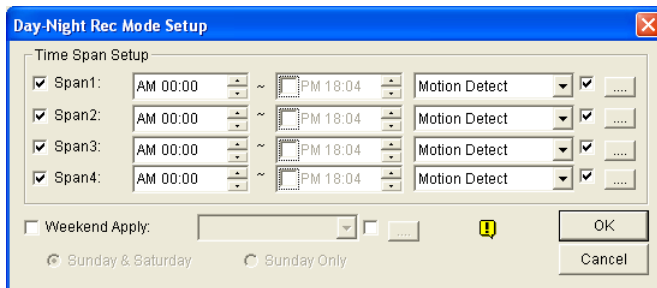

Figure 1-13
- ⊙ **Right-Arrow button:** Brings up the Day-Night Recording Mode setup dialog box (Figure 1-13). For details on Day/Night mode, see *Setting Day-Night Recording Mode* later in this chapter.